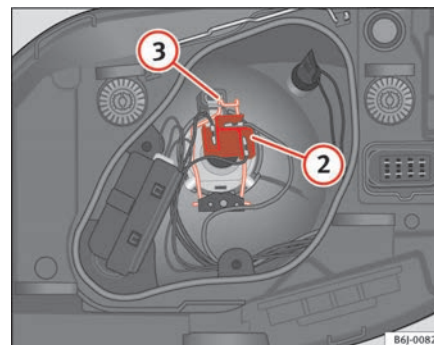

Fig. 153 Dipped beam / main beam, single light
- Remove the connector ⇒ page 222, fig. 153 ② from the bulb.
- Unclip the retainer spring ⇒ page 222, fig. 153 ③ by pressing it inwards to the right.